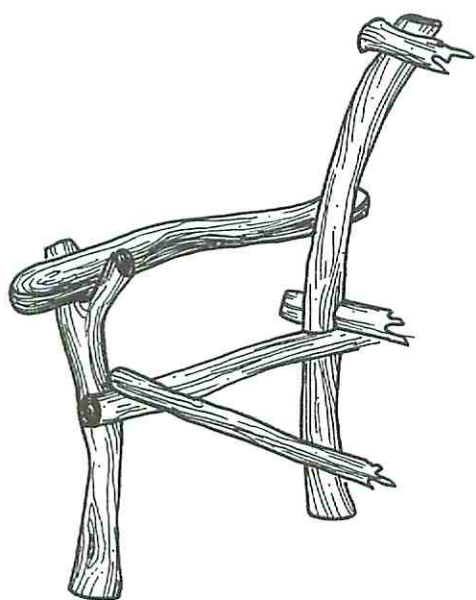

Figure 3
Time to attach the arms (H). Position the right arm against the back leg about 24" from the ground. If the tops of the front legs are Y-shaped, then by all means set the arms in these. See Fig. 3. Notch, drill and either lag bolt or screw (#10 screws) to the leg. The front of the arm should project over the top of the front leg and be secured with two #10 screws or a lag bolt (countersunk for comfort). Repeat for the left arm.